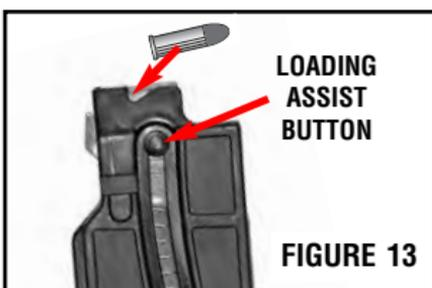

FIGURE 13
- Orient the magazine as shown (Figs. 13 & 14). Hold the follower down using the loading assist button on each side of the magazine. Hold the follower down only far enough to load one round at a time to maintain cartridge alignment. Feed each round into the magazine until it is held by the magazine lips and is against the rear of the magazine. Place the next round on top of the previous round and repeat until the desired number is loaded. Do not attempt to load your magazine beyond its capacity.
- With the bullets oriented as shown (Figure 13), insert the loaded magazine into magazine well until it is securely locked in. Check that it is locked by pulling downward on the magazine (Figures 18a & 18b).